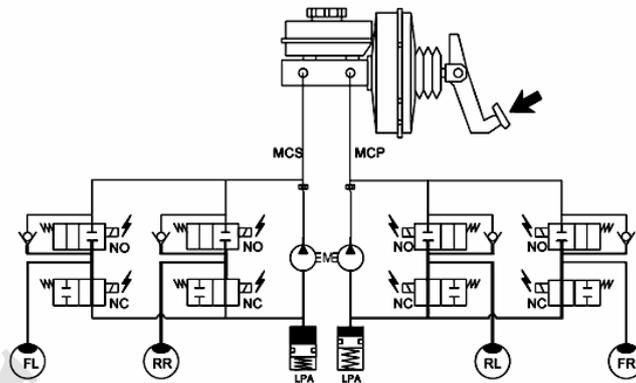

Fig. 3-4
2. ABS operation (pressure decrease) condition (Table 3-2 and Fig. 3-4).